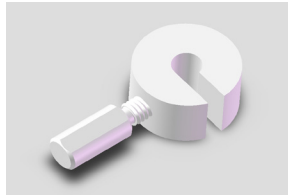

Figure 9. DBS Lead Stop
4. Assemble the Lead Stop (Figure 9) by partially screwing the threaded portion of the screw into the threaded hole in the ring.